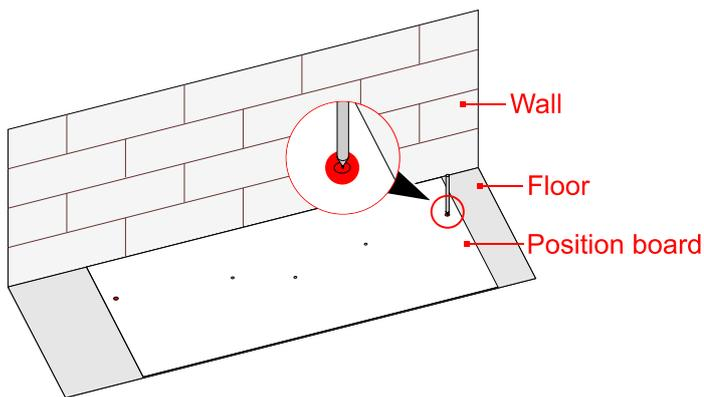

Figure3-6 Mark the installation holes of base
1. Mark the installation holes on the floor on the basis of the position board, as shown in Figure3-6.